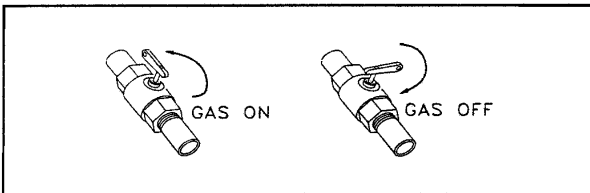

Figure 3 Typical Furnace External Manual Gas Valve.
**Should overheating occur or the gas valve fail to shut off the gas supply, turn off the manual gas valve (See Fig.3) to the furnace BEFORE turning off the electrical supply. Failure to follow these instructions exactly may result in a fire or explosion, causing property damage, personal injury or death.**